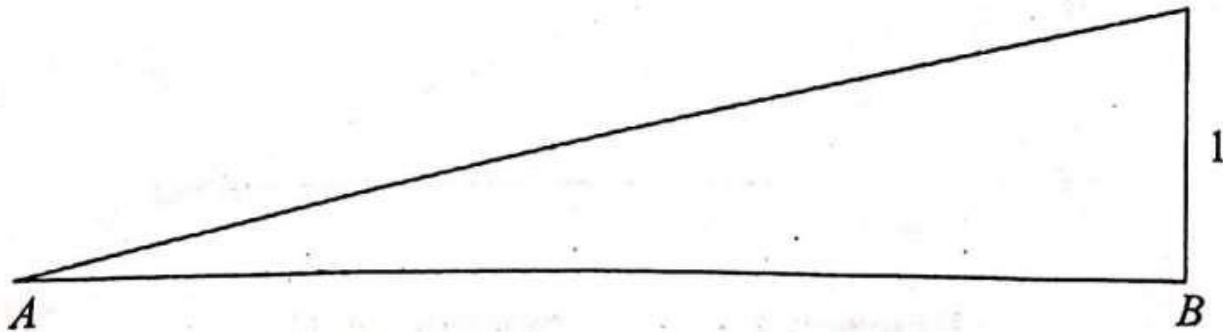

Figure 6: ILD for R_B
- Hence, ILD for reaction at B (R_B) is as shown in Figure 6.